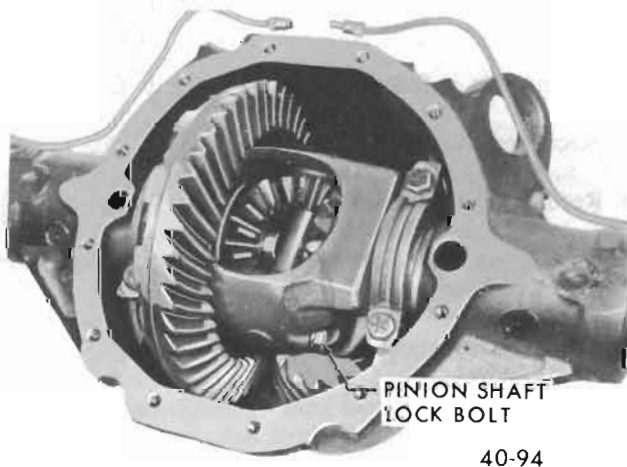

Figure 40-110 Pinion Shaft Lock Bolt
b. Remove pinion shaft lock bolt and pinion shaft. See Figure 40-110.